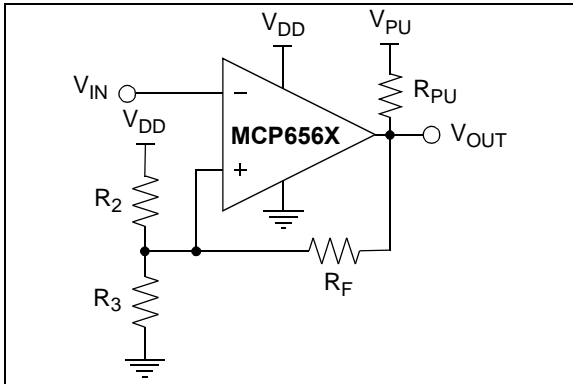
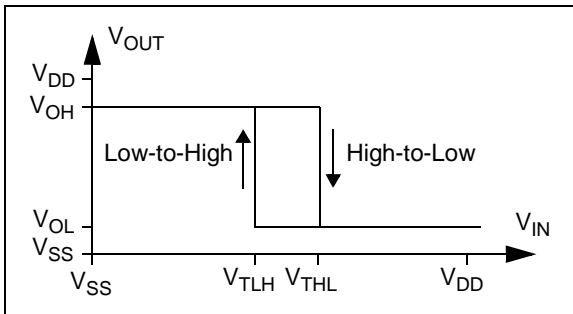
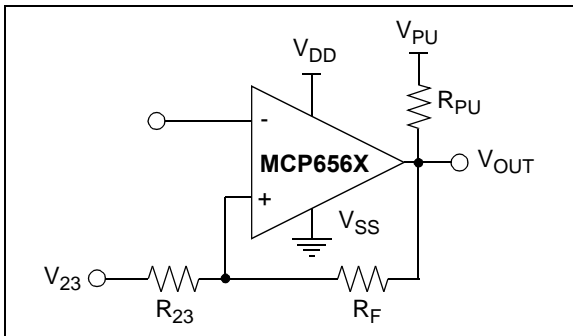

FIGURE 4-6: Inverting Circuit with Hysteresis.
FIGURE 4-7: Hysteresis Diagram for the Inverting Circuit.
FIGURE 4-8: Thevenin Equivalent Circuit.
Figure 4-6 shows an inverting circuit for single-supply using three resistors. The resulting hysteresis diagram is shown in Figure 4-7.
In order to determine the trip voltages (V_{THL} and V_{TLH}) for the circuit shown in Figure 4-6, R_2 and R_3 can be simplified to the Thevenin equivalent circuit with respect to V_{DD} , as shown in Figure 4-8.
1. Inverting Configuration (Figures 4-6 and 4-9):